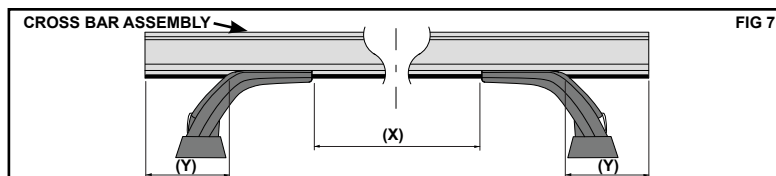

FIG 7
- Secure the Cross Bar to the End Support by screwing the Hex Bolt through the hole in the End Support and up into the Nut that is located in the cavity of the Commercial Slug Nut (Fig. 7).
6. Insert Cut Length (A) into the gap between the End Supports ensuring there are no air gaps.
7. After locking down the End Supports in position, proceed to insert the remaining Undercover Strip into the Cross Bar, filling the remaining gap shown by dimension (Y) in Figure 7. Trim the Undercover Strips back to align with the edge of the Cross Bar for all four 'Cut Length (B)' strips.